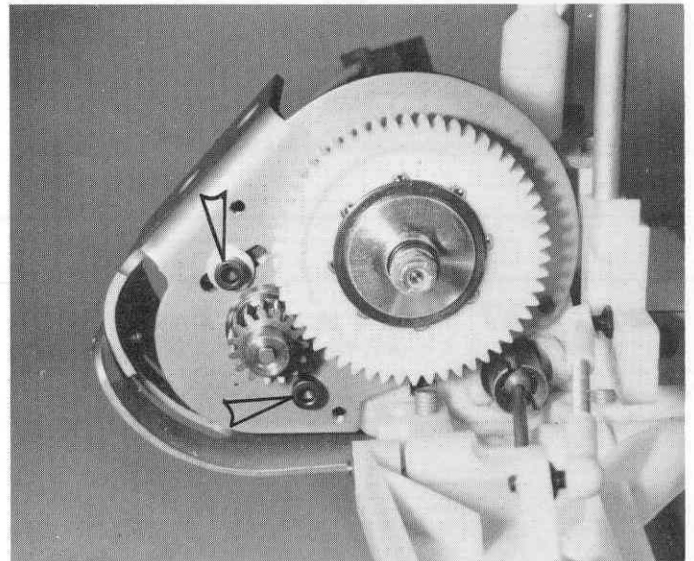

Fig. 139
□ **Fig. 139** In the motor bag are 2 metric motor mounting screws. These screws have finer threads and are ONLY used to mount the motor. Slip the motor in the motor mount and start the bottom screw in first. Do not tighten all the way down yet. On the top screw, put a washer on the screw and screw it in, but not tight. Now we'll set the gear mesh. By moving the upper screw, forward or back, we'll be moving the motor closer to, or away from the plastic spur gear. What we want to do is to get the metal pinion gear as close to the plastic spur gear as we can without binding up the gears. The easy way to check this is to put your finger on the plastic gear and see if you can rock it in the teeth of the metal gear. The 2 gears should be as close as possible, while still being able to very slightly rock the plastic gear. When you have this correct spacing, tighten down on the 2 motor screws and re-check the gear spacing. An incorrect gear mesh can result in a huge power loss, so do it correctly.